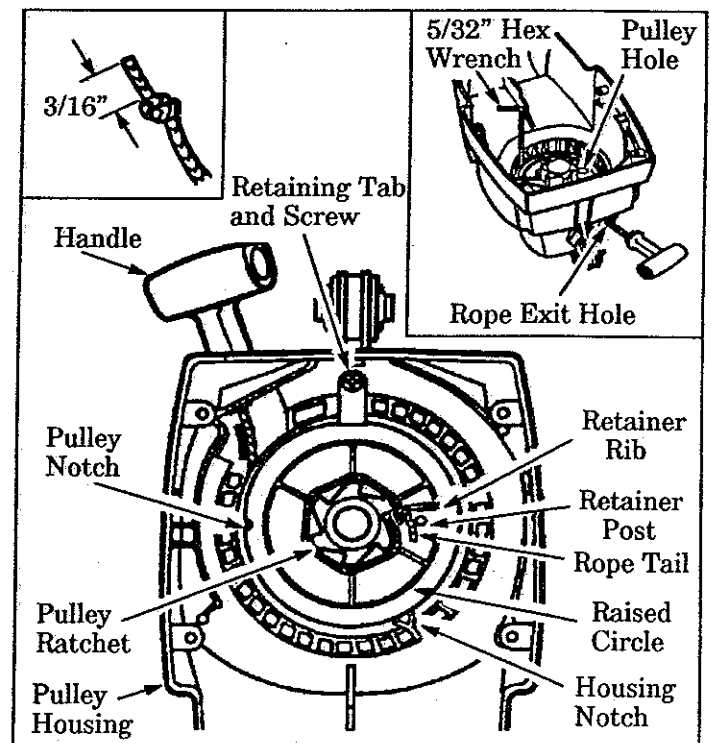

Figure 25
6. Untie Rope around the Pulley Ratchet (Figure 25 ) and pull the Rope out of the Pulley Housing.
7. Position the Pulley Housing as shown in Figure 25 . Hand turn the Pulley clockwise → as far as it will go. Then, turn the Pulley counterclockwise ← until the Pulley Notch is aligned with the Housing Notch. Figure 25 . Next, turn the Pulley one complete turn counterclockwise ← until the notches are aligned again.
8. Insert the small hex wrench into the hole formed by the Notches to hold the Pulley in position. Figure 25 (inset-upper right).
12. Insert one end of the Rope through the Handle and secure with a knot. Leave a 3/16" pigtail behind the knot. Figure 25 (inset-upper left).
13. Insert the other end of the Rope through the Rope Exit Hole into the inside of the Housing, into the Pulley and up through the Pulley Hole. See Figure 25 (inset-upper right).
14. Wrap Rope counterclockwise ← around the Pulley Ratchet and tuck loose end under Rope where it comes out of the Pulley Hole. Leave a 1/4 to 3/8 inch tail laying flat on top of the Pulley between the Retainer Rib and the Retainer Post as shown in Figure 25 . Pull firmly on the rope to tighten it against the Pulley Ratchet. The rope tail *must not* extend beyond the Raised Circle on the Pulley to prevent interference with the Retaining Tab. Figure 25 .